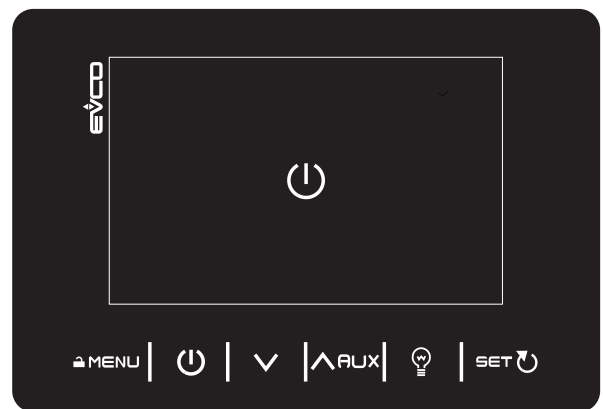

Fig. 8. Controller switching off
N.B.: the icon will be displayed for a few seconds as shown in "Fig. 8. Controller switching off" on page 20 and then the display will go off. The icon will be displayed when one of the keys is pressed.